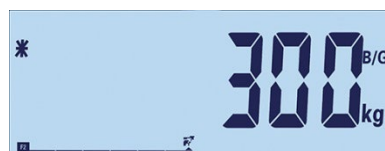

Figure 2-23: Animal Weight Value Displayed
2. The average weight will be displayed, together with a star symbol, as shown in Figure 2-23.